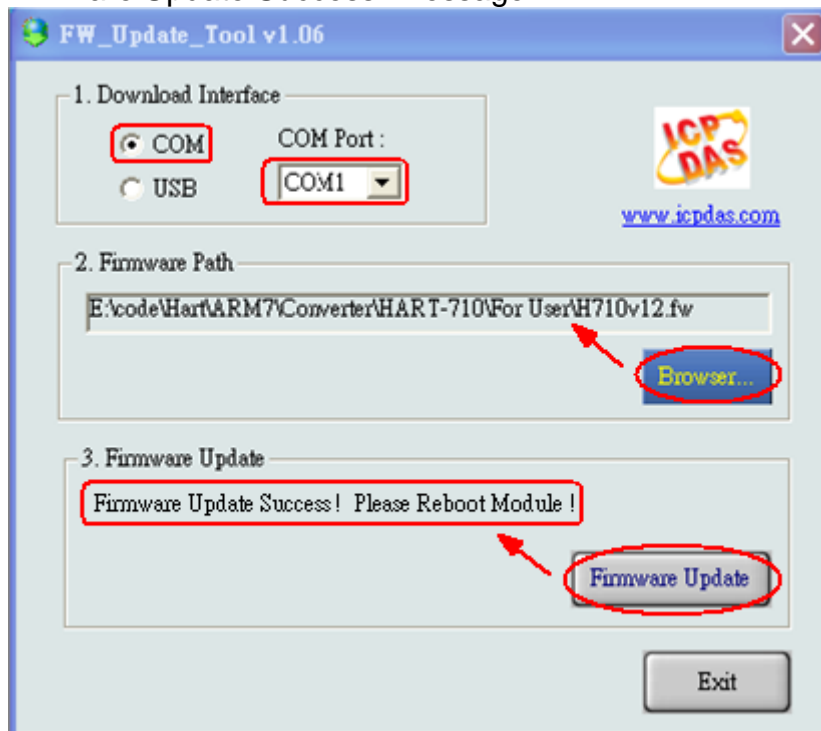

Figure 4-3 “FW_Update_Tool”
- (4) Run “**FW_Update_Tool**” like Figure 4-3 (Download from : ftp://ftp.icpdas.com/pub/cd/fieldbus_cd/hart/gateway/utilities/fw_tool/).